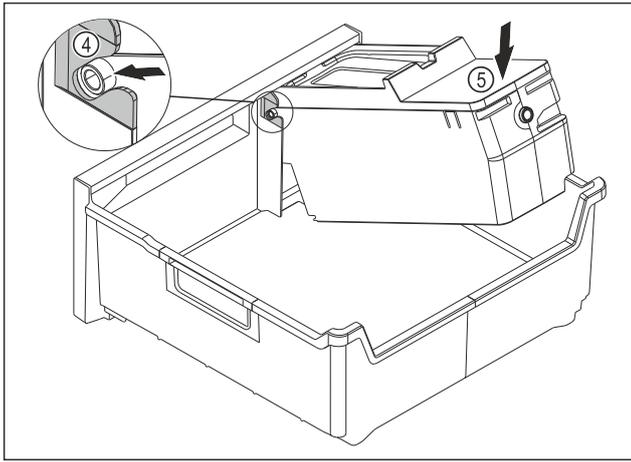

Fig. 116
- ▶ Installing the EasyTwist-Ice body: Push the axes for the EasyTwist-Ice body into the guides Fig. 116 (4).
- ▶ Press the EasyTwist-Ice body Fig. 116 (5) down at the back.